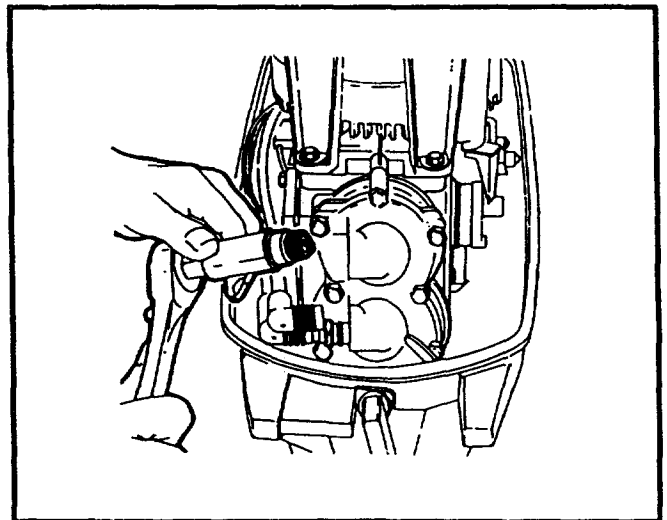

FIGURE 25
- Remove, clean and inspect spark plug. (Figure 25).